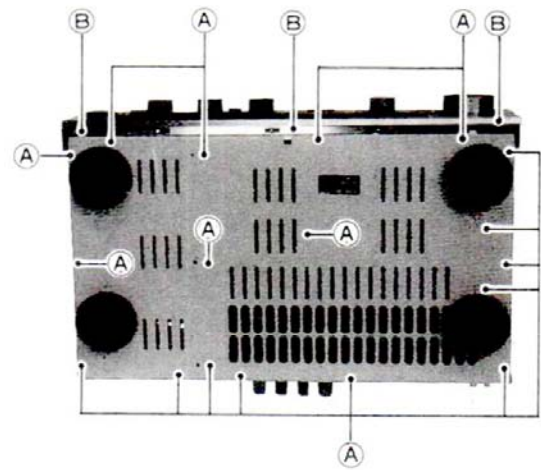

Fig. 1
2. Remove the 18 screws (A). See Fig.1.